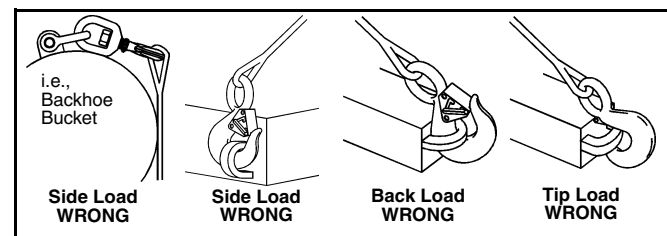

Figure 2
- Never side load, back load, or tip load a hook. (Side loading, back loading and tip loading are conditions that damage and reduce the capacity of the hook). (See Figure 2).